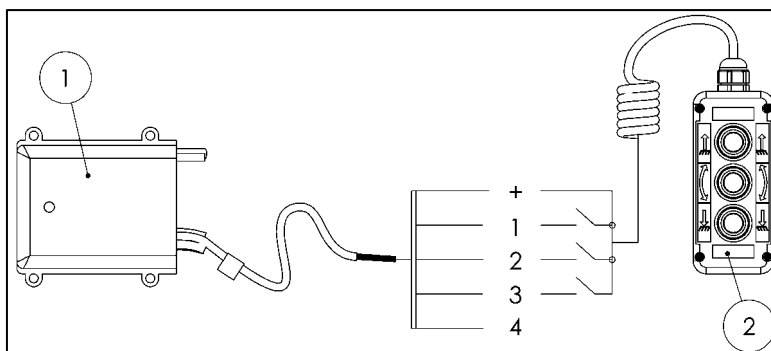
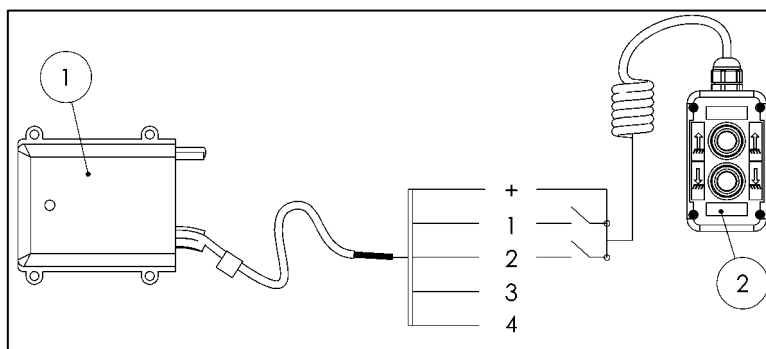

Fig. 44
Fig. 45
- Connect the cable from the handheld control (2) to the stripped control unit cable section (1) with the red marking at the installation location as shown (see Fig. 44 or Fig. 45).